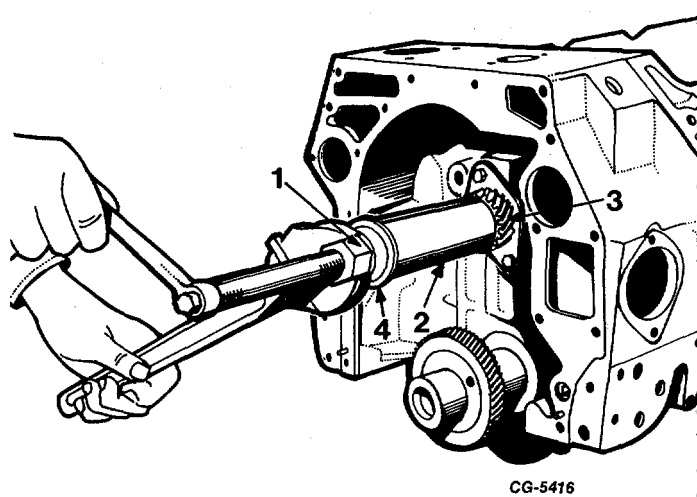

Fig. 123. Installing Distributor Drive Gear Using SE-1900 Tool Set with Thrust Bearing
1. Install distributor drive gear against thrust flange on camshaft using SE-1900-14 sleeve with SE-1900-16 adapter, Figure 123. A thrust bearing is also used under the forcing screw nut to reduce friction.